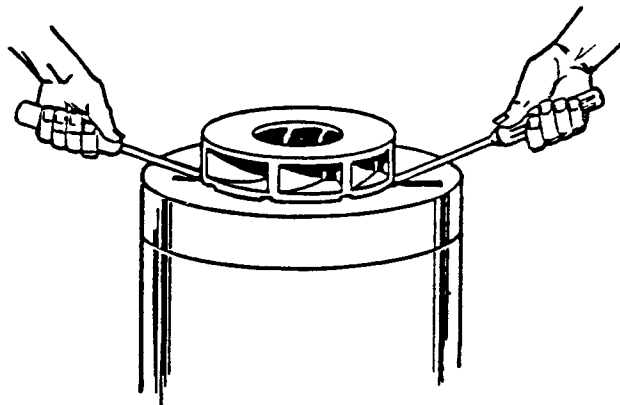

Figure 2. Removing Impeller
Remove the piece of wood from between the vanes of the impeller. Pry the impeller off the shaft using two screwdrivers as shown in Figure 2. Use caution when removing the impeller; tension on the seal spring will be released. Retain the impeller key (76).